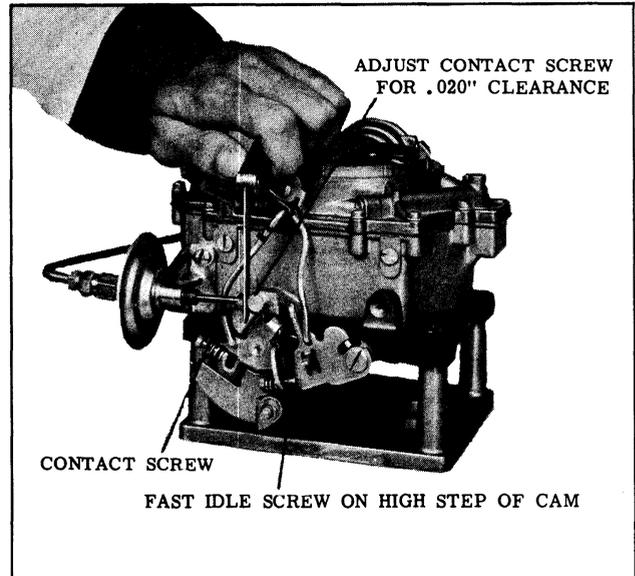

Fig. 8-113 Return Check Adjustment
1. With the engine not running, rotate the fast idle cam so the fast idle screw rests on the highest step of the fast idle cam. (See Fig. 8-113)